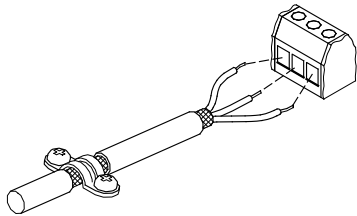

Fig. 20 Example of stripped cable with screen
- Leave the screen as close to the connecting terminals as possible. See fig. 20.